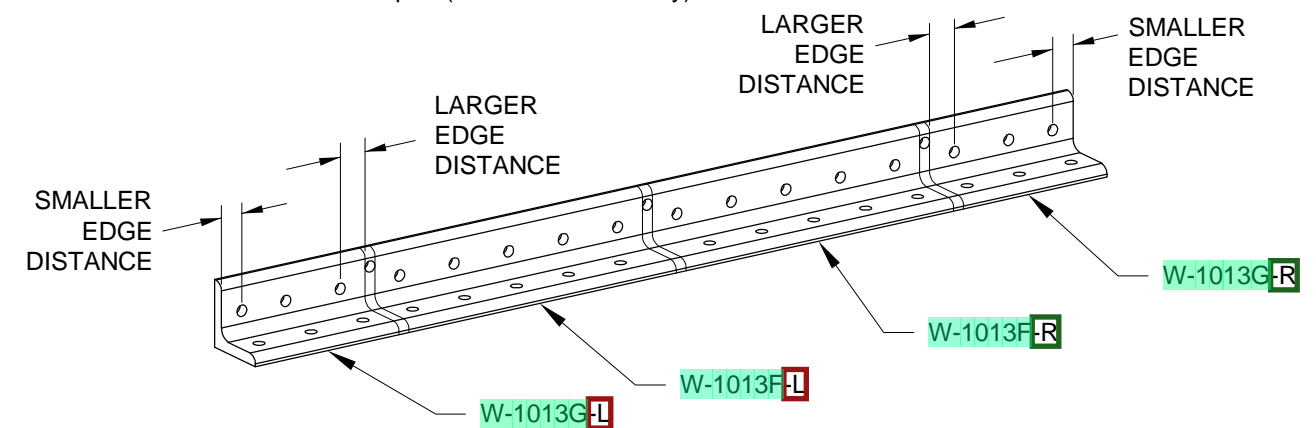

FIGURE 3: SEPARATING THE W-1013FG AILERON ANGLE BRACKET
Note: As shown in Figure 3, there is a slightly larger edge distance for the hole at one end of the **W-1013G-L** & **W-1013G-R** Angle Brackets than at the other end. When orienting the parts in later steps, the hole with the larger edge distance is placed on the bottom and the flange with this hole attaches to the spar web.
Step 7: First label (see Figure 3 below), then separate the **W-1013FG** Aileron Angle Bracket into individual parts as shown in Figure 3. Separate the part at the three holes that are offset to the edge of one of the flanges. Cut perpendicular to the part, and trim away material the width of the hole across the entire part (file/sand if necessary).